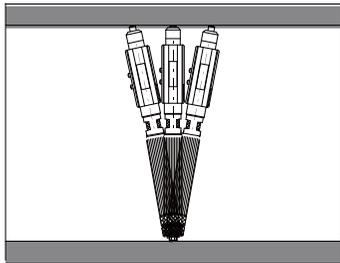
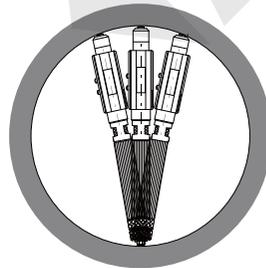

fig.2
fig.3
- Put fixed tip to contact with the measured hole, rotate fine-adjustment nut to make movable tip contact with the measured hole. Continually rotate the fine-adjustment nut for two rounds, shake micrometer gently along hole's axial and radial to find the minimum value in axial direction (fig.2) and the maximum value in radial direction (fig.3).
- During measurement, make sure there are no cutting chips or other debris on the measuring faces and workpiece surface. Adjust the size of micrometer slightly less than the hole's diameter, and then put micrometer into the hole. Make fixed tip to contact with the measured hole, rotate fine-adjustment nut to make movable tip contact with the measured hole. Continually rotate the fine-adjustment nut for two rounds, shake micrometer gently along hole's axial and radial to find the minimum value in axial direction (fig.2) and the maximum value in radial direction (fig.3). Get the result and take out micrometer.